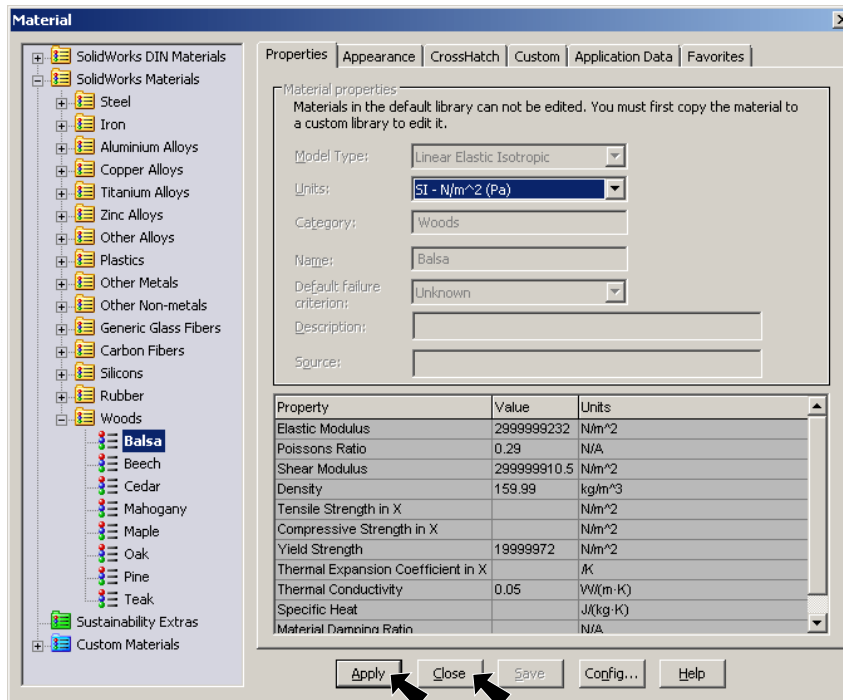
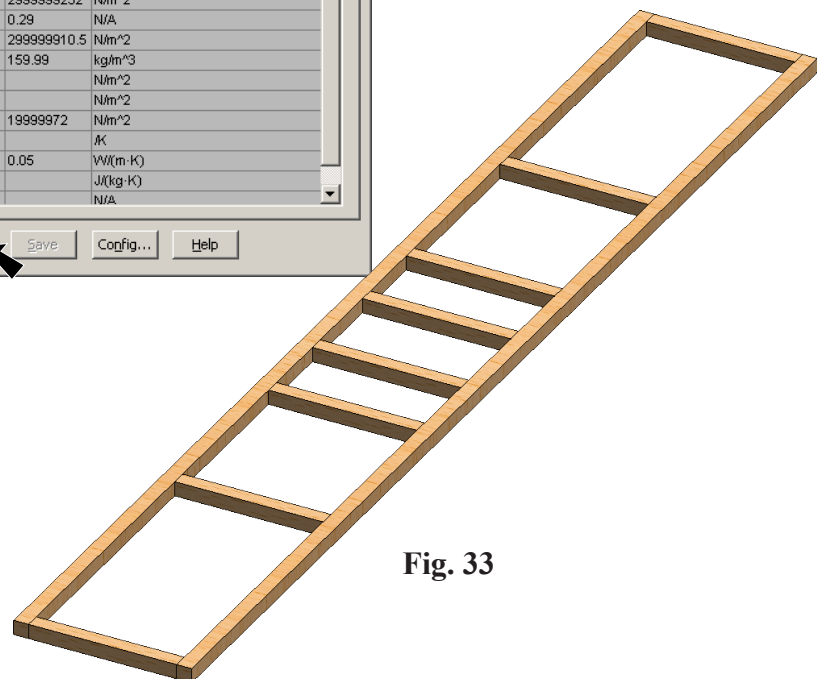

Fig. 32
Fig. 33
Step 2. **Expand Woods** (click the +) in the material tree and select **Balsa**, **Fig. 32**. Click **Apply** and **Close**, **Fig. 33**.